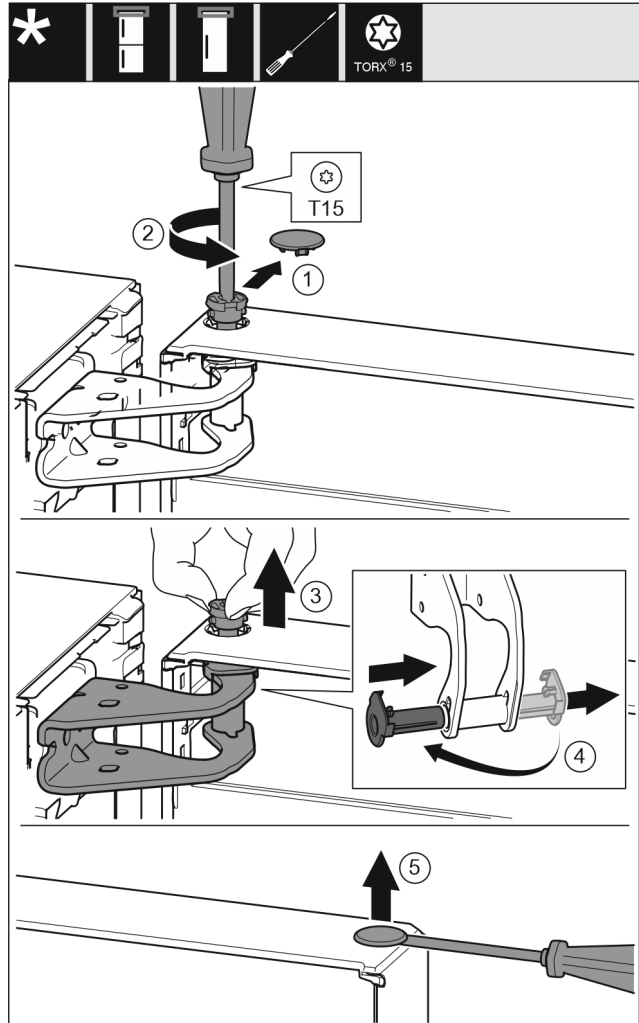

Fig. 7
- ▶ Carefully remove the protective cover. *Fig. 7 (1)*
- ▶ Undo the bolt a little with a T15 screwdriver. *Fig. 7 (2)*
- ▶ Hold the door and remove the bolts with your fingers. *Fig. 7 (3)*
- ▶ Pull the bearing bush out of the guide. Insert from the other side and latch into place. *Fig. 7 (4)*
- ▶ Carefully lift the plugs out of the door bearing bush with a slotted screwdriver and pull them out. *Fig. 7 (5)*